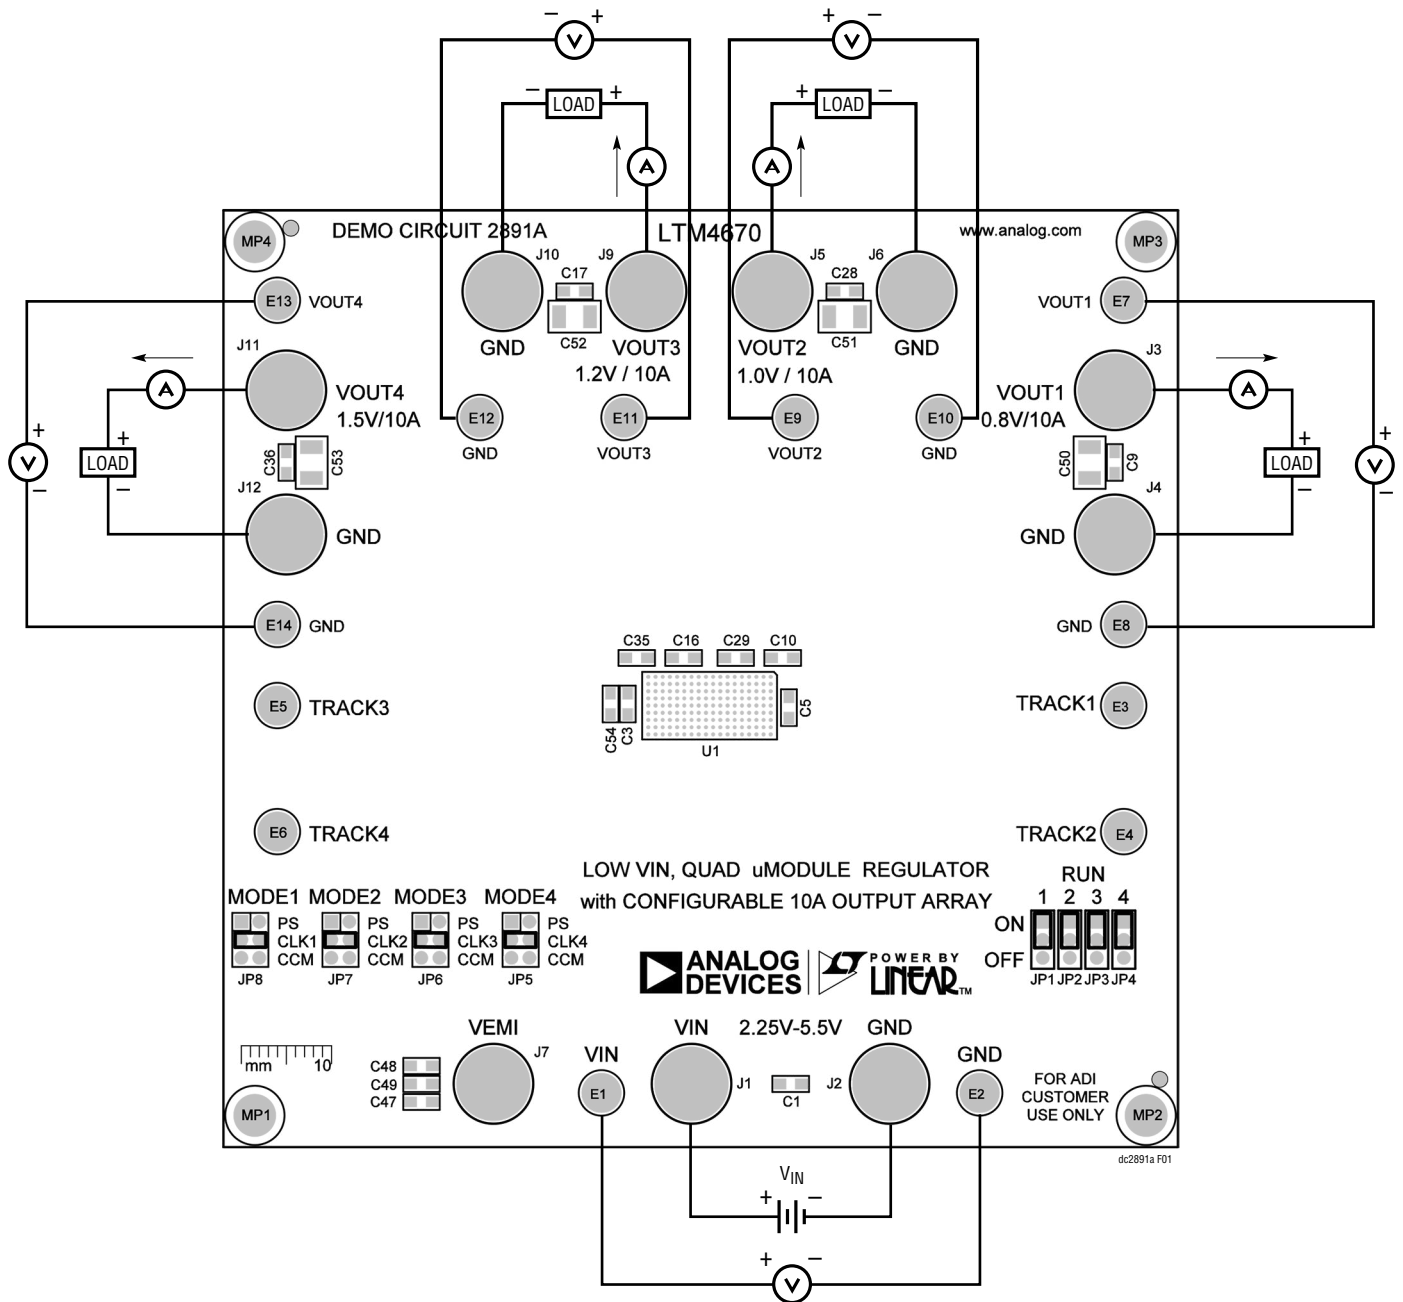

Figure 1. Measurement Setup of DC2891A
Demonstration circuit DC2891A is an easy way to evaluate the performance of the LTM4670EY. Please refer to Figure 1 for proper measurement equipment setup and follow the procedure below.
- With power off, connect the input power supply, loads and meters as shown in Figure 1. Preset the load to 0A and VIN supply to 3.3V.